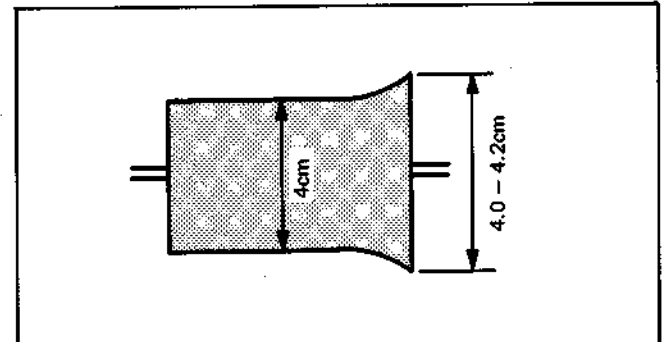
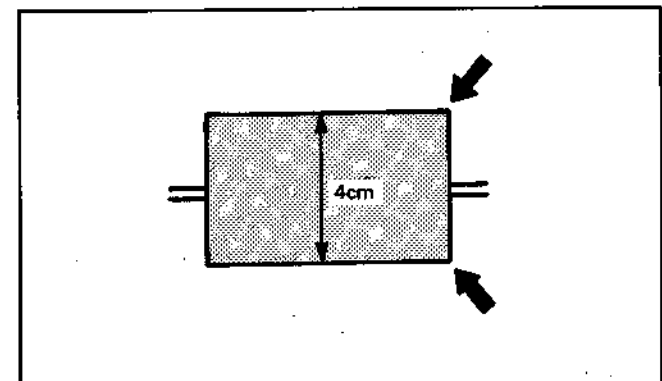

Fig. 1-20 No. 4 Guide Waveform
Fig. 1-21 No. 3 Guide Waveform
- 7) Turn No. 4 guide adjustment nut clockwise, so that the RF output waveform is as shown in Fig. 1-20.
- 8) Turn the No. 3 guide adjustment nut clockwise, so that the RF output waveform exit portion marked by the arrows (Fig. 1-21) is 1 – 2mm lower than the state in Fig. 1-20.